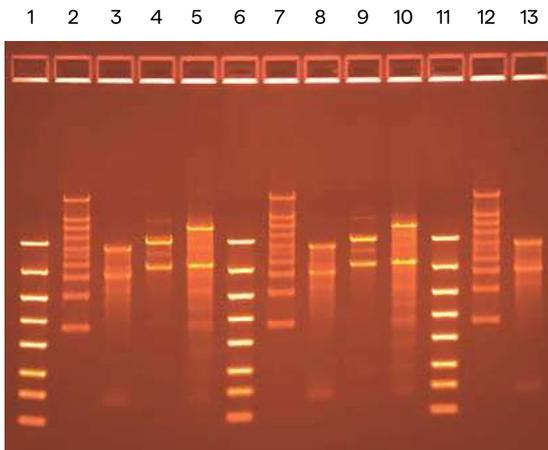

Figure 5. Detection of RNA fragments on a FlashGel® RNA Cassette. Cassette run for 8 minutes at 225 V; photographed 20 minutes post-run.
12. Record the gel data using the FlashGel® Camera, digital photography or other image capture systems. See Figures 5 and 6 (page 16) for RNA images.